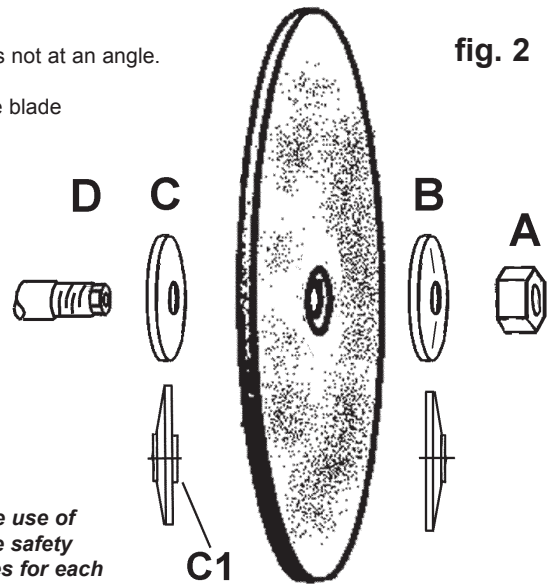

fig. 2
- 3.4.3. Hold the end of the shaft (fig. 2.D) with a spanner on the flats and remove the blade retaining nut (fig. 2.A).
- 3.4.4. Remove the outer blade washer (fig. 2.B) and the blade.
- Note: The two blade washers (fig.2.B & C) are different and must be correctly fitted. The inner washer (C) has a spigot (C1), to locate the blade, which is not present on the outer washer. Each washer **must** be fitted with the flat face in contact with the blade.